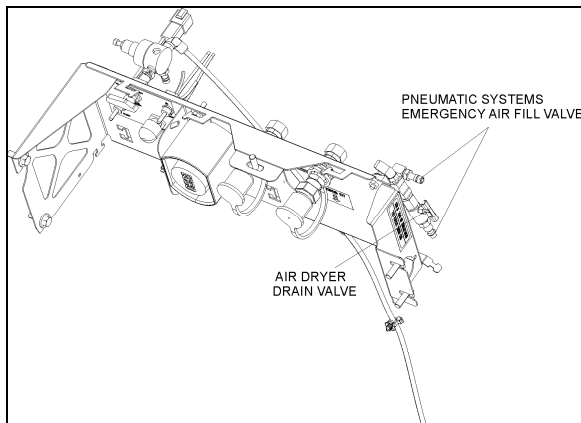

FIGURE 2: REAR VALVE LOCATION 12219
The rear valve is located in the engine compartment and is accessible from engine compartment R.H. side door (Fig 2.).
1. Release air dryer pressure by opening the air dryer drain valve (fig.2).